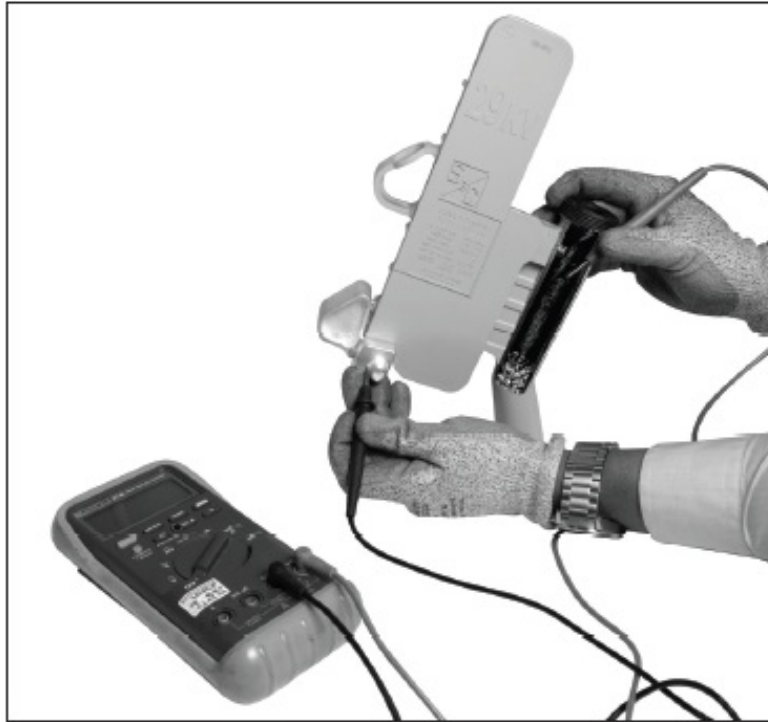

Figure 5. Checking the continuity of a backup limiter.
- **STEP 5.** Immediately prior to installation, check the limiter to ensure no damage occurred during shipping. Visually inspect the unit with the trunnion removed to make sure there are no cracks or other visible damage. Check continuity to ensure internal limiter components were not damaged during shipping. See Figure 5 on page 11.
- **STEP 3.** Determine whether the backup limiter has operated by checking its continuity. Touch one lead of the continuity tester to the trunnion and the other to the button contact inside the exhaust-control device. See Figure 5. The continuity test must be performed as part of the re-fusing procedure after every Fault Tamer Fuse Limiter operation.
Failure to remove debris from inside the exhaust-control section can prevent full travel of the fuse cartridge during a subsequent fault-clearing operation. This can result in arcing, fire, equipment damage, serious injury, or death. Do not remove the screen or copper shot at the bottom of the exhaust-control section. See Figure 5. Doing so can result in serious injury or death during a subsequent fault-clearing operation.